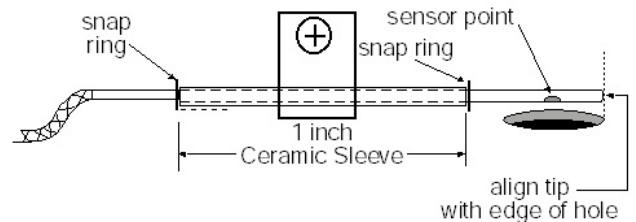

Figure 155: Placement of Thermocouple
3. Detach the thermocouple from the surface of the heater by removing the three (3) 3 x 0.5 x 10 mm screws holding the cable clamps in place.
10. Attach the thermocouple to the surface of the heater by aligning the tip with the edge of the hole. Refer to Figure 155 for proper placement. If the optional Center Board Support Device is installed on the
NOTE Do not allow the thermocouple to touch the heater panel. Refer to Figure 155.